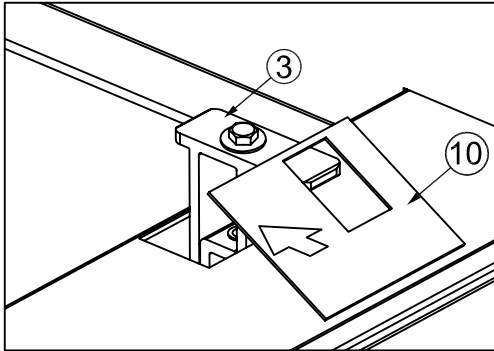

Fig. 9
10. Slide hole cover (#9) under tab of J-hook receiver (#3) (See Fig. 9)